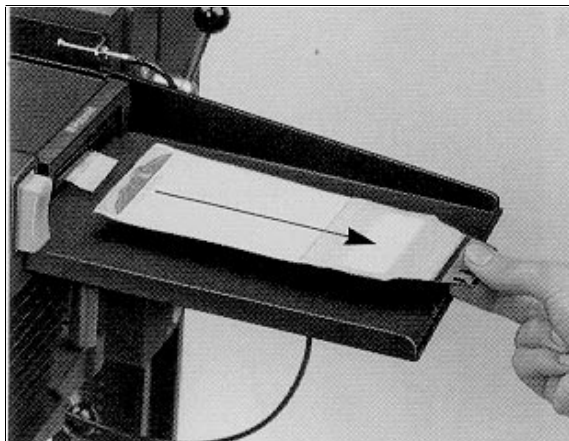

Figure 3-18. Pull Yellow Tab
2. Grip the yellow tab firmly and pull it straight, at moderate speed, all the way out of the holder (figure 3-18).